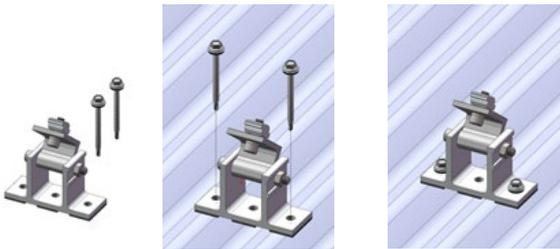
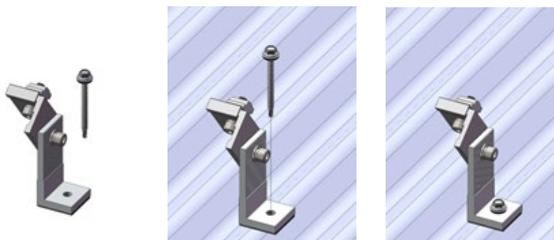

Figure 5.7a
Figure 5.7c
According to the installation plan, determine the mounting position and direction of the front legs. Either two screws or single screw (Buildex 14-11 x 70 Hex Head Zips screw) is required depending on the installation spacing requirement. See two screws and single screw options in Figures 5.7a and 5.7b Tin foot front leg installation is in Figure 5.7c .
1. Two screws shall be installed through two side holes of front leg (as shown in Figure 5.7a);